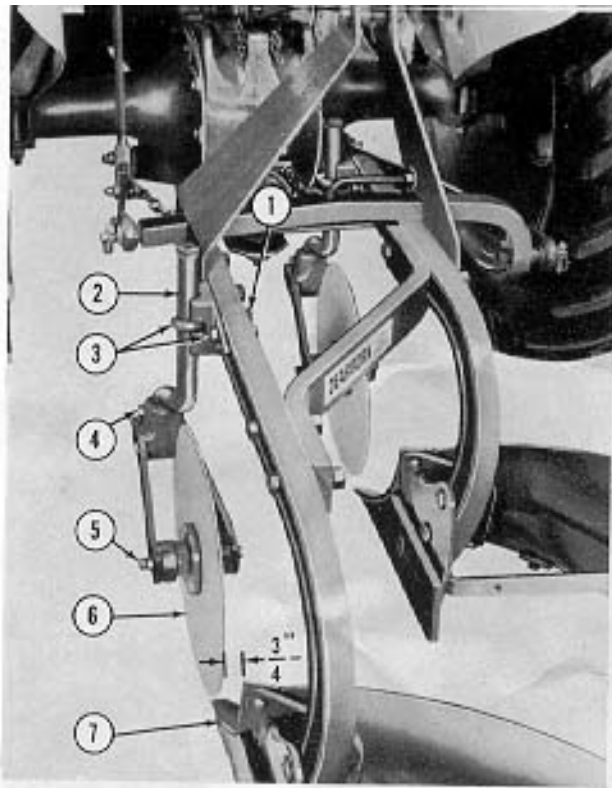
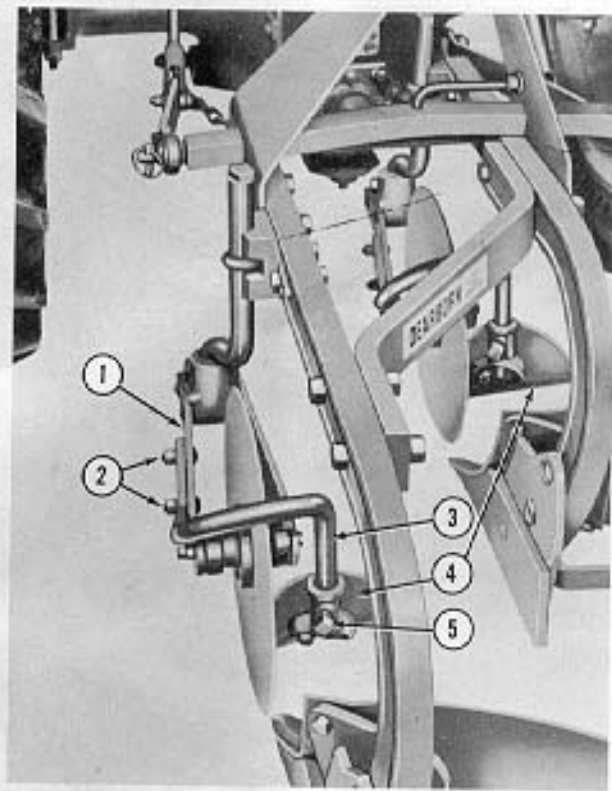

Figure 3
Figure 4
- a. Attach the coulters stem (2), Figure 3, to the left side of each beam with the stem seat and eye bolt clamp (3).
- b. Adjust the coulters for depth and width of cut desired and tighten the eye bolt nut (1), Figure 3, securely.
NOTE: The eye bolt clamp (3), Figure 3, may be attached in reverse, thus providing a forward or rearward adjustment for the coulters blade. The forward position as shown is used under normal plowing conditions. The rearward position is used in hard ground or where heavy trash lies close to the ground.
- c. The swing of the coulters (6), Figure 3, may be controlled by loosening the nut (4) on the limit stop and adjusting the stop. Tighten the nut (4), Figure 3, **SECURELY**.
- d. Adjust the nut on the bolt (5), Figure 3, to take up excess play in the bearings and secure with the locknut provided.
- a. Attach a jointer arm (3), Figure 4, to the left side of each coulters fork (1) with the two carriage bolts (2), lock washers and nuts.
- b. Adjust the jointers (4), Figure 4, with the point lightly touching the coulter blades (6), Figure 3.
- c. To adjust the jointers (4), Figure 4, loosen the set screw (5) and position as desired.